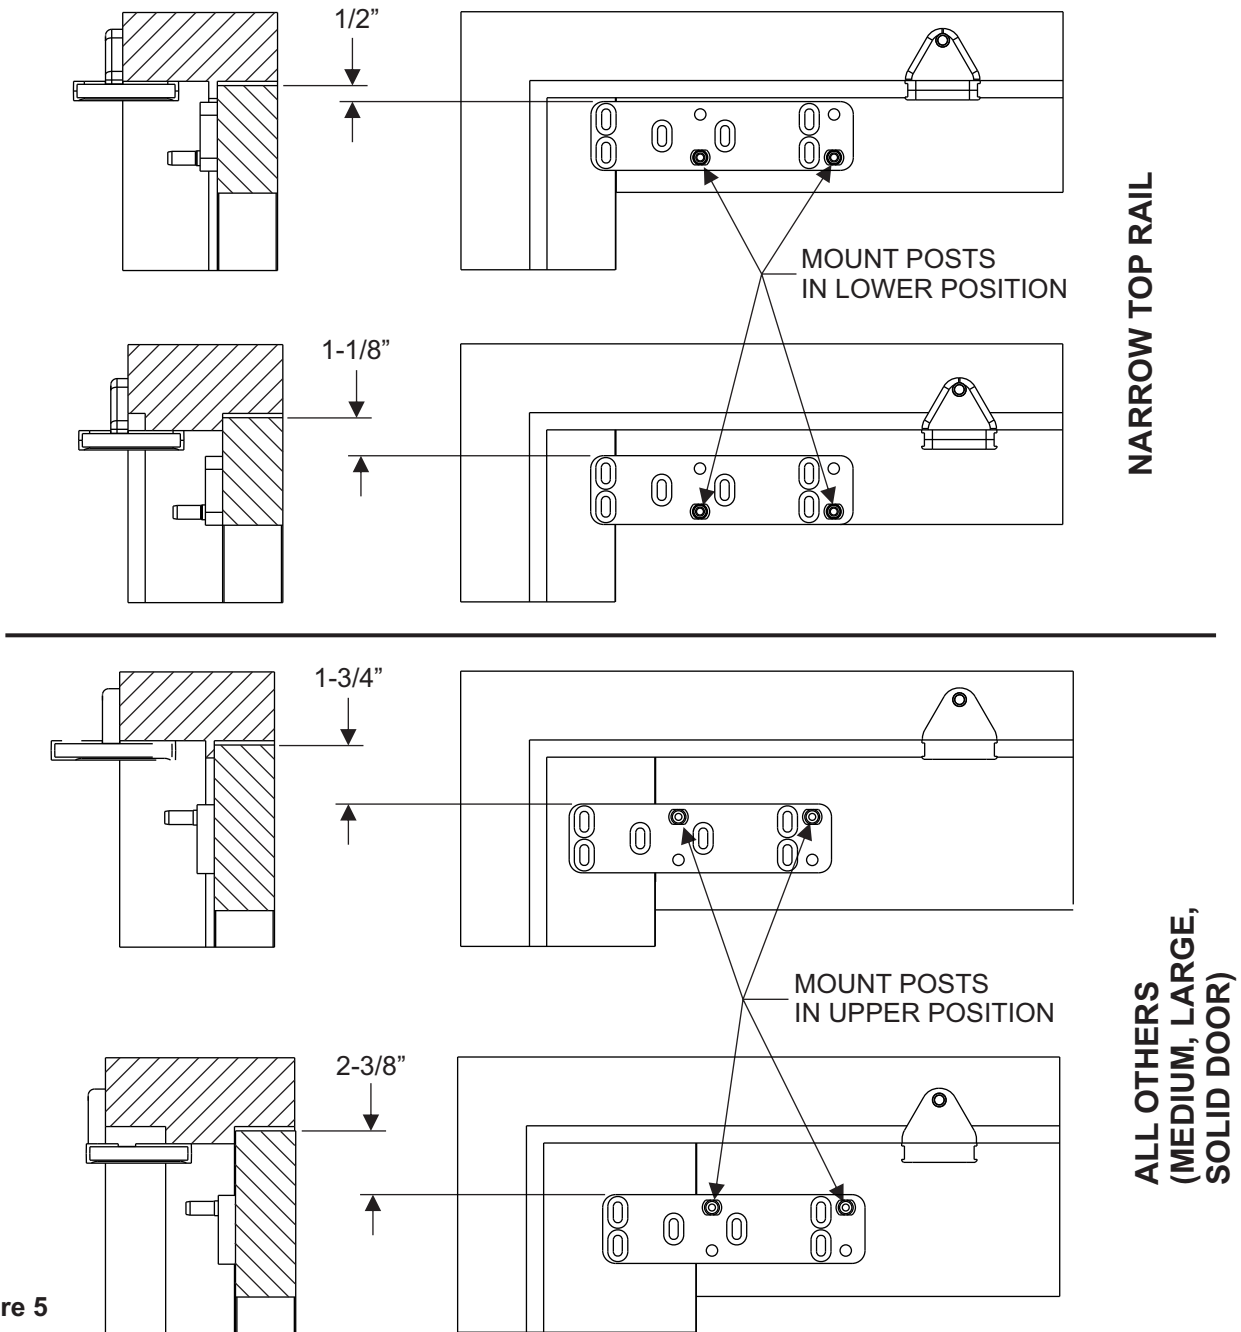

Figure 5
1. Refer to Figure 5, and DETERMINE the proper operator mounting bracket location.
9. Refer to Figure 5 and PERFORM one of the following as applicable: